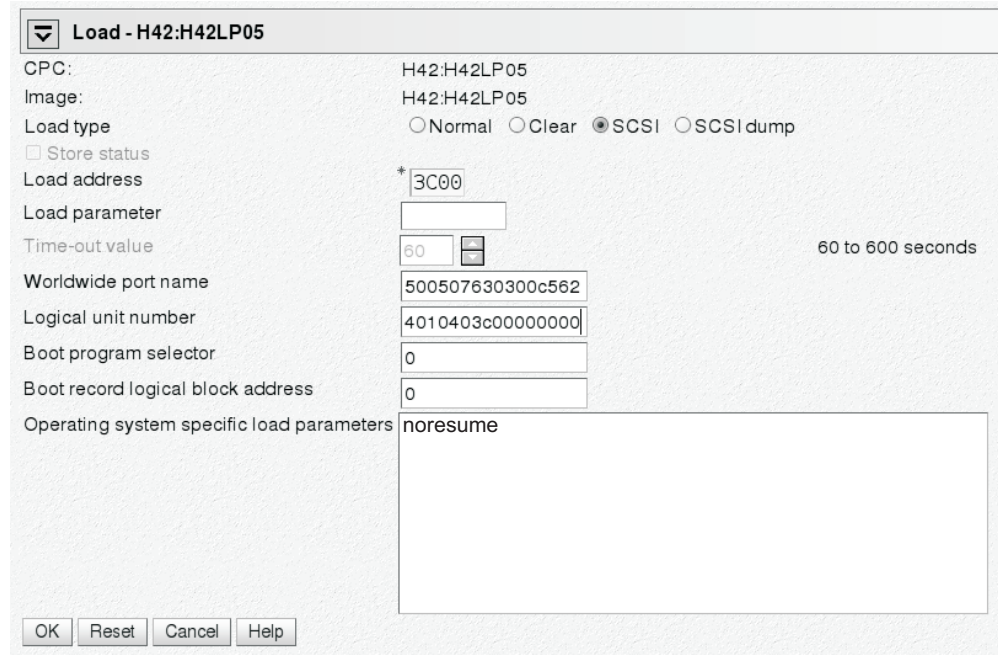

Figure 26. Load panel with SCSI feature enabled — for booting from a SCSI disk
- a. Select load type **SCSI**(see Figure 26 on page 101).